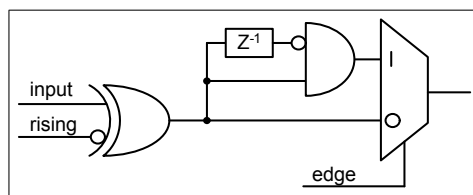

Figure 2.17: The digital inputs Trigger, GATE, BUS0, BUS1, BUS2 and BUS3 have simpler trigger units.
The configuration is set via the structures `trigger[8]` and `trigger[9]` in the configuration structure. The input circuit is shown in Figure 2.17 on page 13.
- the GATE input (Figure 2.17 on page 13)
- the Trigger input (Figure 2.17 on page 13)